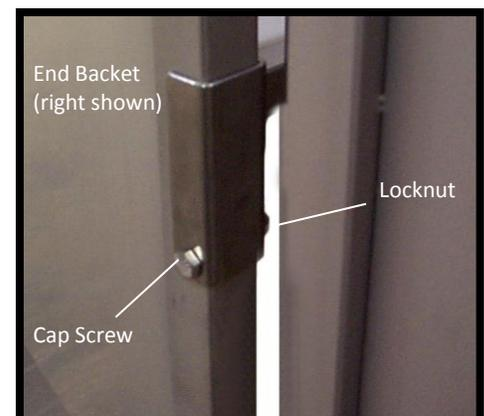

Figure 71: End Panel Resting Shelf Bracket
1. With two 1/2 in. wrenches, remove the two cap screws and locknuts that hold the resting shelf to the end/partition panel brackets (Figure 71).
3. With two 1/2 in. wrenches, remove the cap screw and locknut that secure the bracket to the end panel (Figure 71), and remove the bracket.